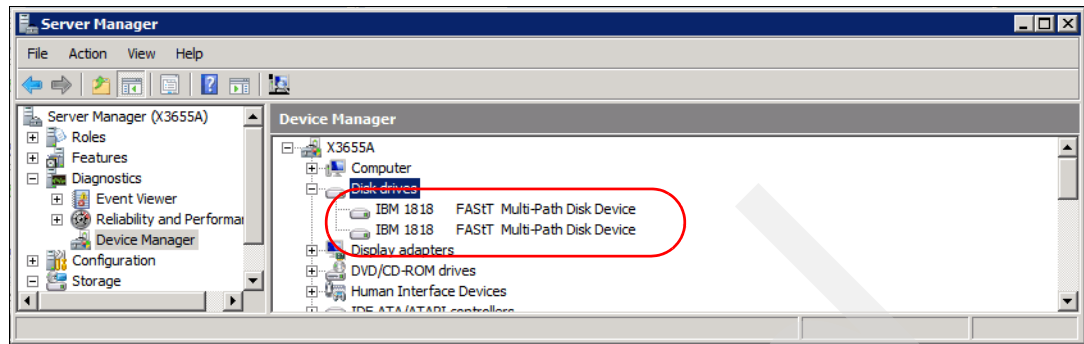

Figure 4-14 Verifying new disks in Device Manager
1. Open the Device Manager folder to see the detected mapped logical volumes. Each logical drive is presented as IBM xxx Multipath Disk Device under the Disk drives folder, where xxx is the product ID of the DS Storage subsystem, as shown in Figure 4-14.